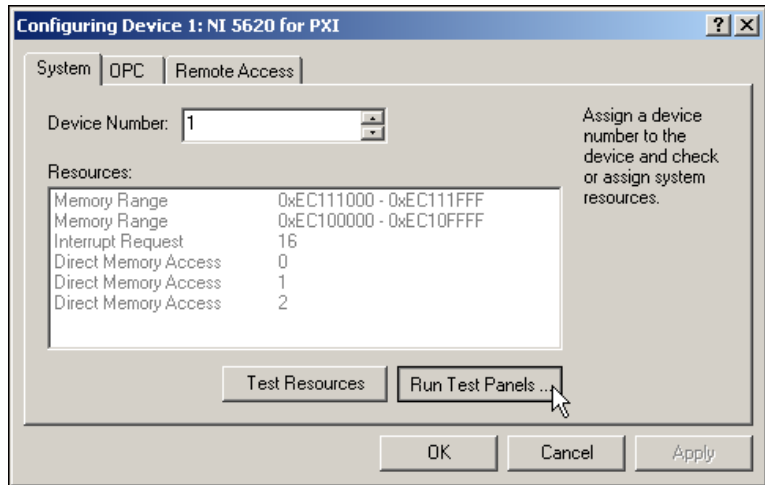

Figure B-2. Select Run Test Panels to Test NI 5620 IF Digitizer Function
5. The Configuring Device dialog appears as shown in Figure B-2. Click **Test Resources** to self-test the NI 5620 IF digitizer hardware module.
6. In the NI 5620 Configuring Device window, select **Run Test Panels** as shown in Figure B-2. The NI 5620 test panel performs a functional test of the IF digitizer module.